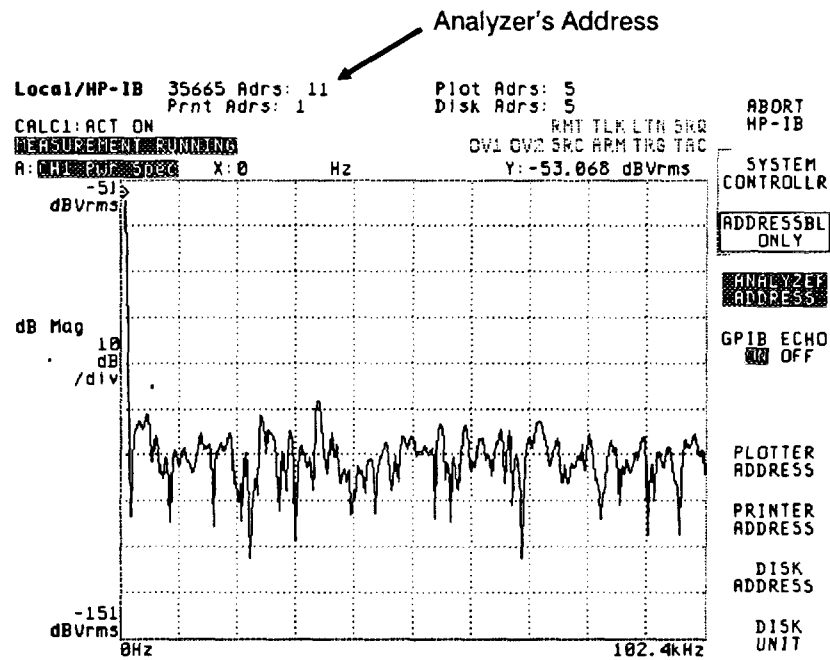

Figure 1-4. HP 35665A Screen After Pressing Local/HP-IB
4. Verify that the analyzer's address is set to 11. The current address setting is displayed when you press the [ANALYZER ADDRESS] softkey (see figure 1-4). You can change the address by pressing [ANALYZER ADDRESS], then using the numeric keypad and the [ENTER] softkey to enter a new value. However, the instructions in the verification procedure assume that the analyzer address is set to 11.